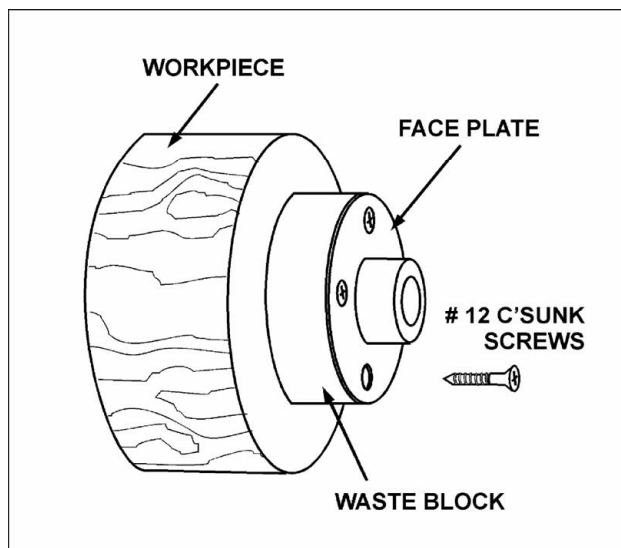

Fig. 21
Use of a faceplate is the most common method for holding a block of wood for turning bowls, and plates, see Figure 21.
3. Using the faceplate as a template, mark the location of the mounting holes, and drill pilot holes of the appropriate size. If the mounting screws on the faceplate interfere with the workpiece, a waste block can be mounted to the faceplate and then the waste block mounted to the workpiece by gluing or screwing, see Figure 21.